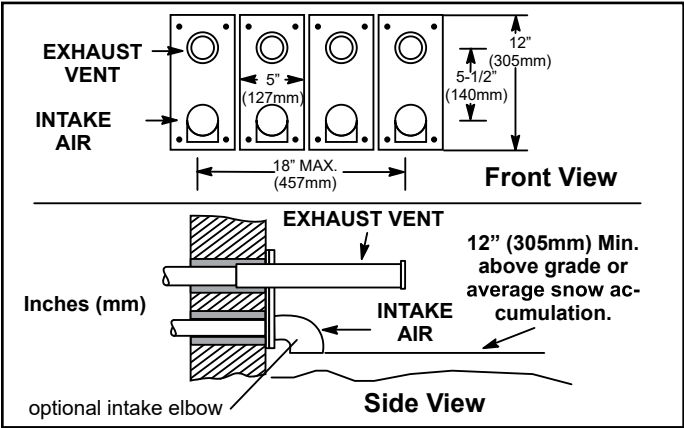

Figure 30. Optional Vent Termination for Multiple Unit Installation of Direct Vent Wall Termination
8. A multiple furnace installation may use a group of up to four terminations assembled together horizontally, as shown in Figure 30.